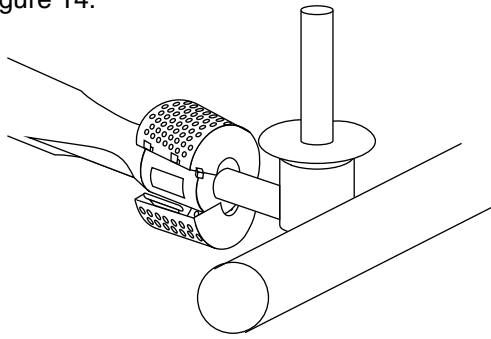

Figure 14
- d) Unlatch the Spider Stopper Guards and remove. Figure 14.